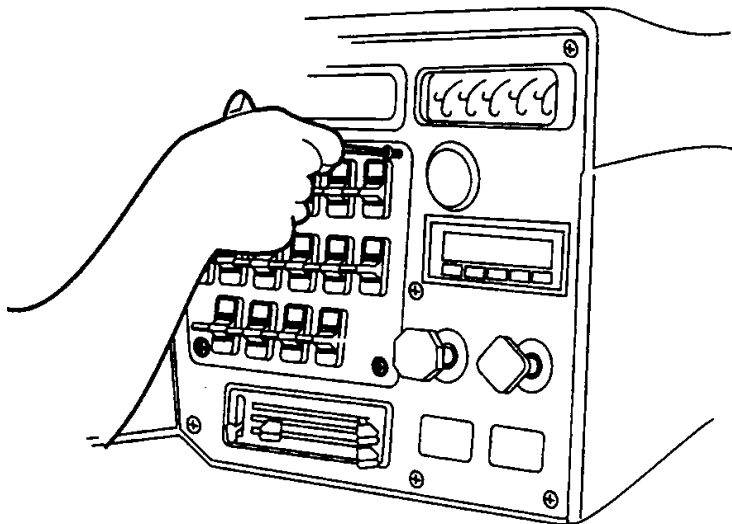

Figure 52 Dash Switch Panel Remove/Install
1. Remove dash switch panel to access top of dash control assembly (Figure 52). It should not be necessary to disconnect switch panel electrical harness.
7. Install dash switch panel (Figure 52).